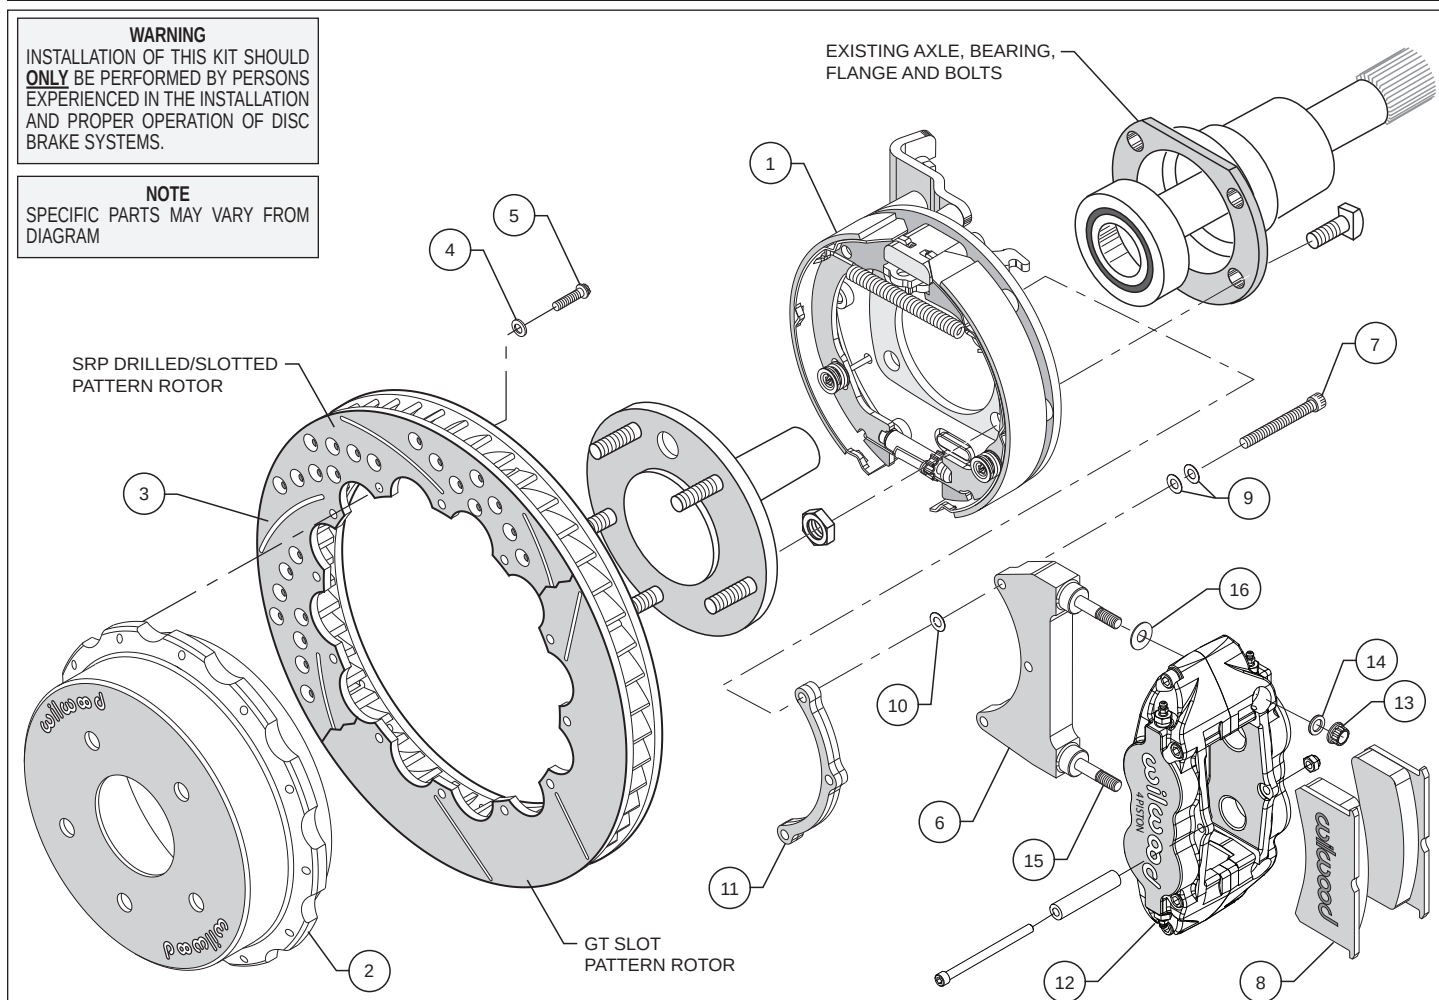

Figure 1. Typical Installation Configuration
- NOTE:** Please reference the caution statement at the beginning of the assembly instructions. The caliper mounting bracket assembly (6) should be installed first with clean, dry threads on the mounting bolts (7). Install the bracket from the rear side of the bracket kit assembly (1) by sliding bolt (7) through two flat washers (9), bracket (6), shim washer (10) and finally through the spacer (11), see Figure 1. **NOTE:** End of bolt should not exceed inside face of insert. The bracket must tighten squarely against the back side of the bracket kit assembly (1). Inspect for interference from casting irregularities, machining ridges, burrs, etc. Use one thin shim (10) between the bracket (6) and spacer (11) during initial trial fitting.
- Install one washer (16) over each pre-installed stud (15) on the radial mount bracket (6). Slide the caliper (12) in place over the studs and rotor, then install the washer (14) and lock nut (13) to hold the caliper in place. Snug the lock nuts (13) and check that the rotor (3) is centered in the caliper (12). Add or subtract .015" shims (10) as necessary between the caliper mounting bracket (6) and the spacer (11) to center the caliper (12).
- Remove the caliper center bridge pad retainer bolt, nut, and tube from the caliper. Slide the brake pads (8) into place. They should install easily without interference. Check that the outside radius of the brake pad is aligned with the outside diameter radius of the rotor face. Add or subtract shims (16) between the caliper (12) and mount bracket (6) to gain the proper alignment. Reinstall the center bridge pad retainer tube, bolt, and locknut. The locknut should be snug without play in the bolt or tube. Be cautious not to over tighten.
- Adjust the parking brake shoes outward (using a drum shoe adjustment tool available at your local auto parts store) while spinning the hat (2) until a slight drag is felt against the hat/drum. Remove the lug nuts that were holding the hat/rotor in place. Install the wheel and lug nuts. Check to see that the wheel rotates freely without interference.
- Once all clearances have been checked, remove the wheel, caliper, hat/rotor from the bracket kit assembly (1). Secure the caliper mounting bracket (6) to the bracket kit assembly (1) using red *Loctite*® 271. Torque bolts (7) to 180 in-lb. Reinstall the hat/rotor assembly and again use lug nuts to hold it in place. Lubricate caliper mounting studs and nuts with lightweight oil, reinstall the caliper, torque the caliper nuts (13) to 30 ft-lb.
- NOTE:** Clevis and cable kits which attach to the parking brake assembly are not included in the Wilwood parking brake kit. Wilwood offers a generic style parking brake cable kit, P/N 330-9371 for this application which can be ordered separately from your local Wilwood dealer or by calling Wilwood customer service at (805) 388-1188.